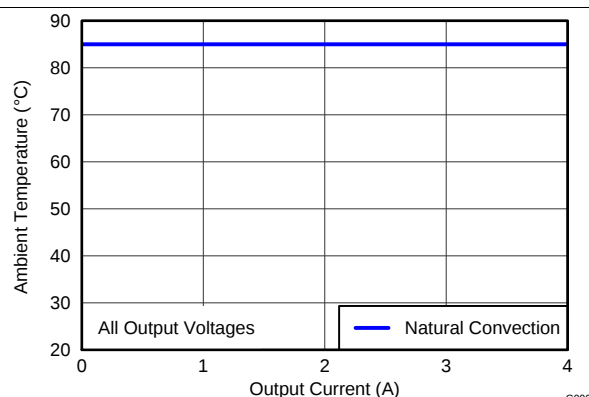

Figure 9. Safe Operating Area
(11) The temperature derating curves represent the conditions at which internal components are at or below the manufacturer's maximum operating temperatures. Derating limits apply to devices soldered directly to a 100 mm $\times$ 100 mm double-sided PCB with 1 oz. copper. Applies to Figure 9.